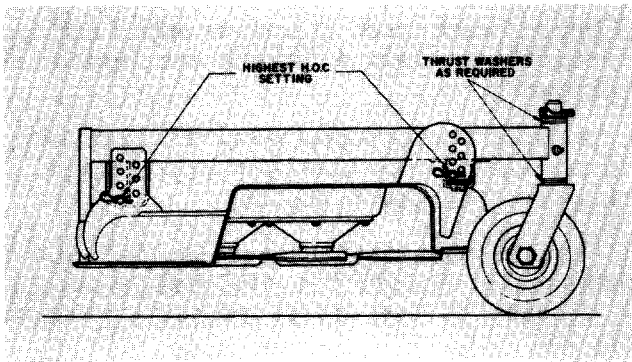

Figure 17
1. Check to make sure front height-of-cut pins are resting properly on frame cushions (Fig. 17).
2. Raise height-of-cut to the 3½" (89 mm) or 4 in. (102 mm) position (Fig. 17): refer to Adjusting Height-Of-Cut, page 7.
A. Cutting units usually operated at 1 to 2 in. (25 to 51 mm) height-of-cut should have the low side of the cutting unit raised. Remove the lynch pin securing castor wheel on low end (Fig. 17) and remove castor assembly.